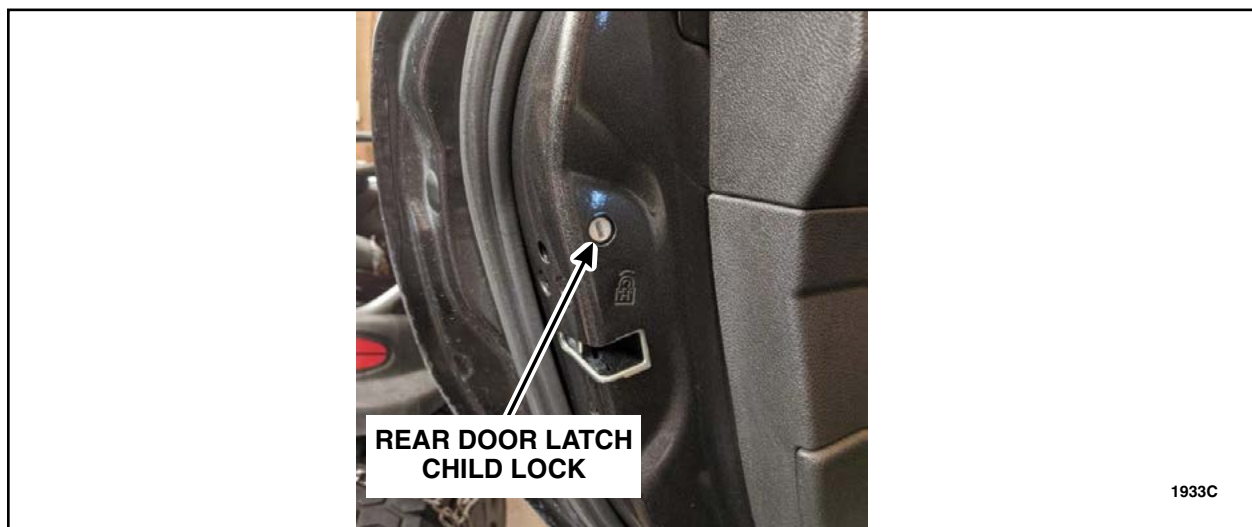

FIGURE 2
3. When repairs are complete, verify the presence of a child lock in each of the rear door latches. See Figure 2.